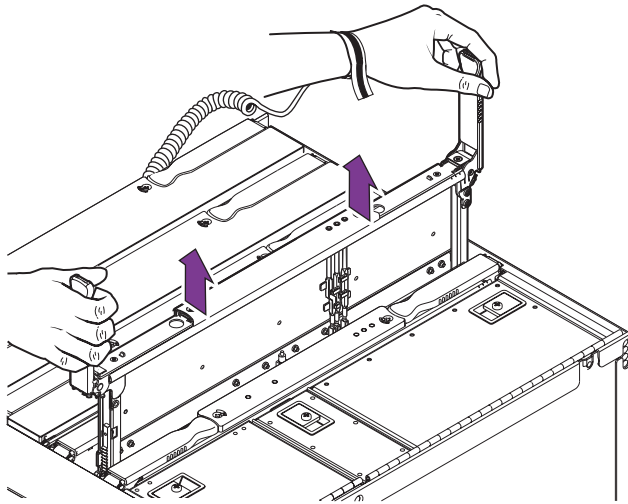

FIGURE 11-3 Raising an L2 Repeater Board
11. Grasp the ejector levers and pull upward to raise the L2 Repeater board until the green panels are visible (FIGURE 11-3).
12. Grasp the green panels and raise the L2 Repeater board out of the system (FIGURE 11-3).
7. Reposition your grip on the levers and then push down on the levers to lock them into place (FIGURE 11-3).